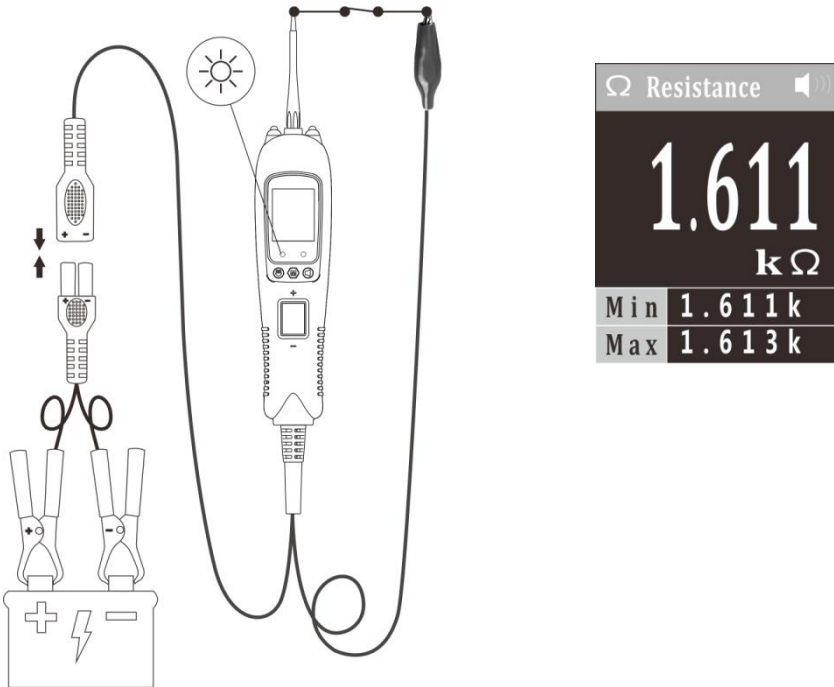

Figure 12
- 4) In other cases, the LCD shows the resistance of the component under test, along with the maximum and minimum values during the measurement, as shown in Figure 12.